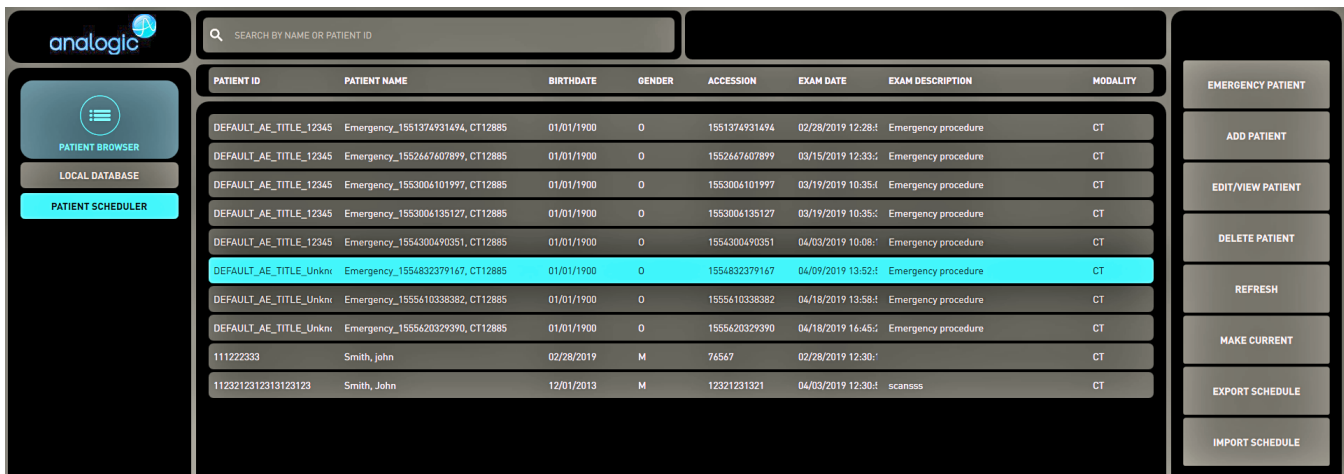

FIGURE 5.15 Selecting a Patient from the Patient Scheduler Screen
1. Select the patient from the PATIENT SCHEDULER screen (FIGURE 5.15).